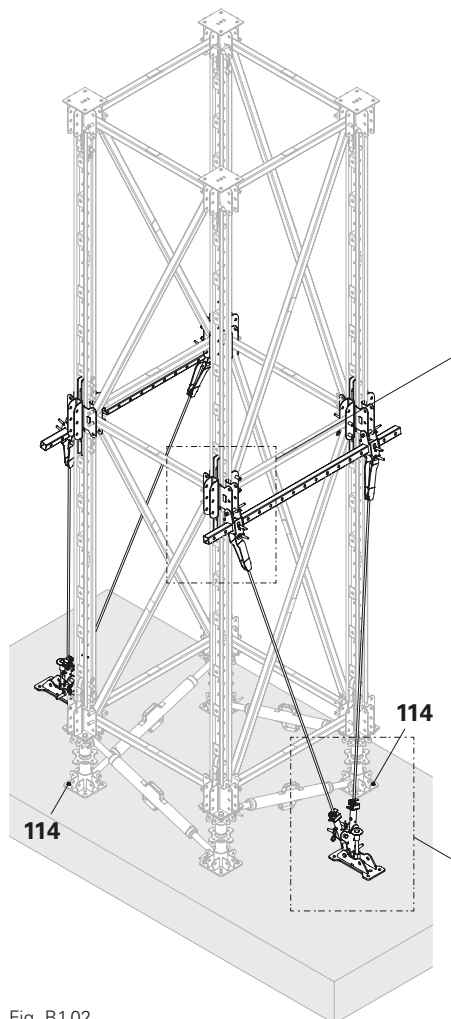
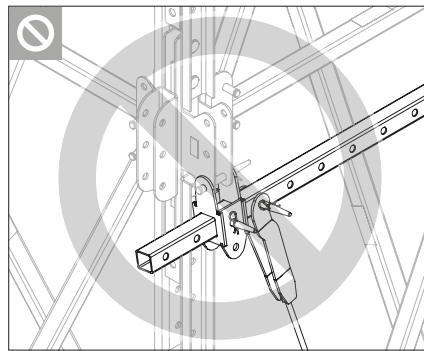

Fig. B1.02
Fig. B1.02d
1. Fit the Bracing Shoe VARIOKIT (109) at the specified position on the ground with the tie rod and hex nut and secure the protruding tie rod with the protective cap.
2. Fit the Bracing Connector VARIOKIT (107) with fitting pin  $\varnothing 21 \times 120$  (53) and cotter pin 4/1 (54) onto the Vertical Connector ATS (7) from a safe working position.
3. Insert the Bracing Distribution Tube VARIOKIT (106) through the Bracing Connector VARIOKIT (107) and fit it with fitting pin  $\varnothing 21 \times 120$  (53) and cotter pin 4/1 (54).
4. Fit the Tension Tie Connections CB/SCS (105) onto the Bracing Connector VARIOKIT (107) with fitting pin  $\varnothing 21 \times 120$  (53) and cotter pin 4/1 (54).
⚠ Do not fit Tension Tie Connection CB/SCS (105) onto the Bracing Distribution Tube (106). (Fig. B1.02d)
5. Fit the Y-adapter VARIOKIT (110) onto the Bracing Shoe VARIOKIT (109) with fitting pin  $\varnothing 26 \times 120$  (112) and cotter pin 5/1 (113).
6. Fit the Articulated Spanner DW15 (108) onto the Y-adapter VARIOKIT (110) with fitting pin  $\varnothing 26 \times 120$  (112) and cotter pin 5/2 (29).
8. Twist lock articulated spanner Fit DW15 (111) onto the tie rod and secure with cotter pins 4/1 (54).
9. Prevent the tower from shifting using two opposing project-specific ties (114).
- (Fig. B1.02 – B1.02e)